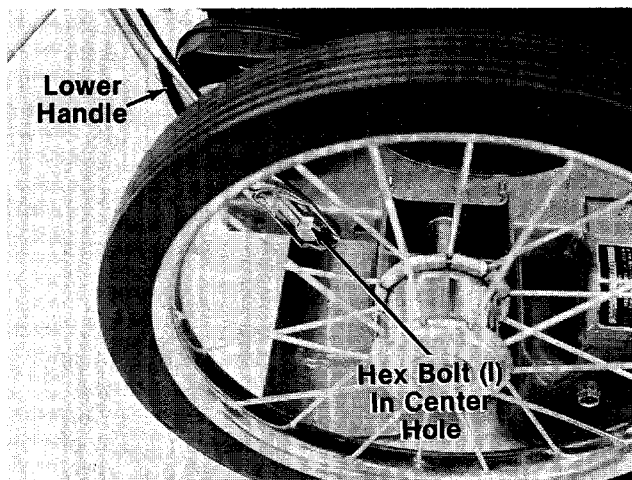

FIGURE 2.
1. Assemble lower handle to frame assembly by lining up hole in lower handle with center hole in frame assembly. See figure 2. Secure using hex bolts (I), lock washers (J) and hex nuts (K) on the inside of frame. Two 9/16" wrenches are required.